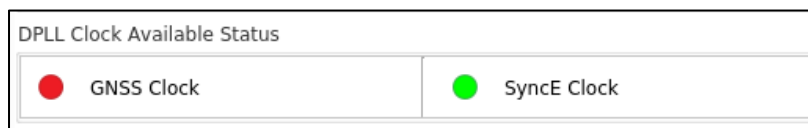

Figure 6.28. DPLL Clock Alarm
- The clock source to which DPLL is locked is displayed in the user interface, as shown in Figure 6.28.